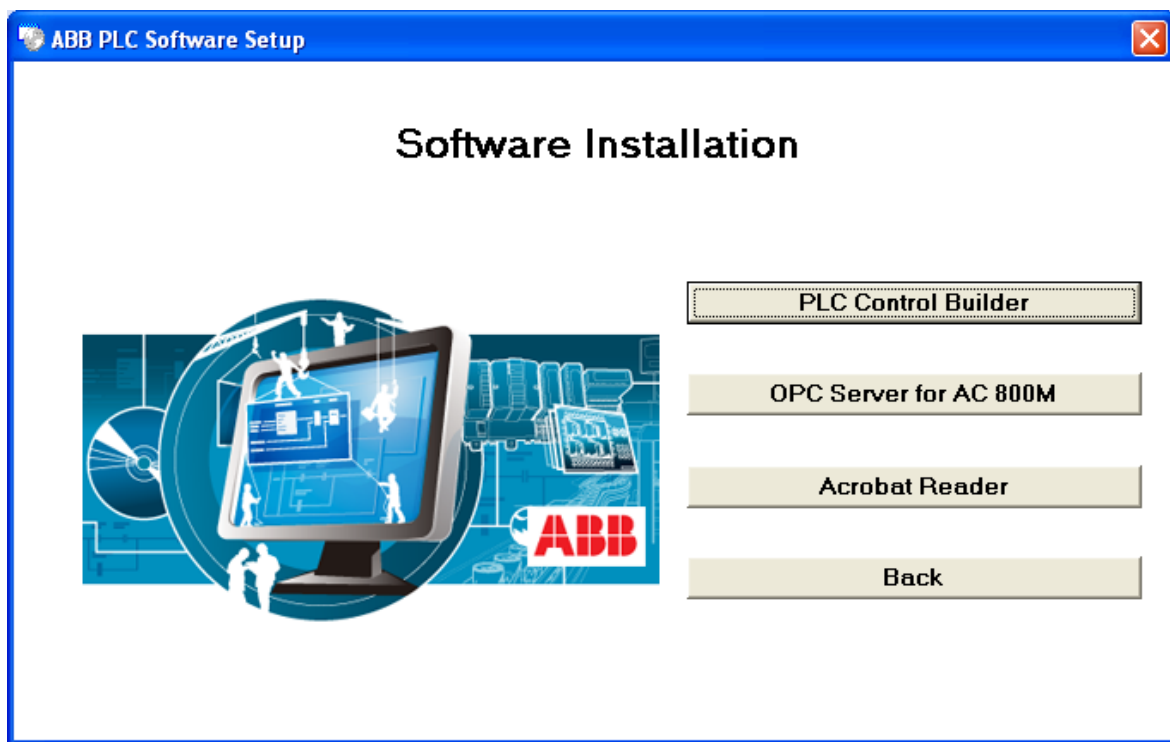

Figure 5. The Software Installation dialog window.
1. Click the **OPC Server for AC 800M** button (see Figure 5). The Installation Wizard starts.